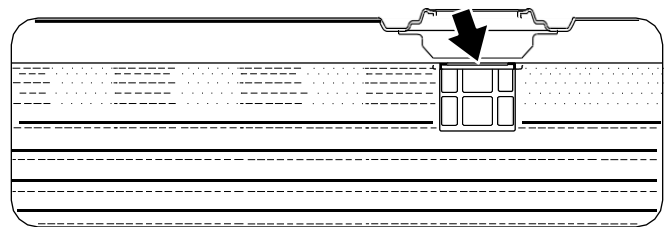

Figure 15 – Maximum Gasoline Fill Level
6. Slowly add gasoline into the fuel tank. Be very careful not to overfill the tank. The gasoline level should NOT be higher than the filler neck (see *Figure 15*).